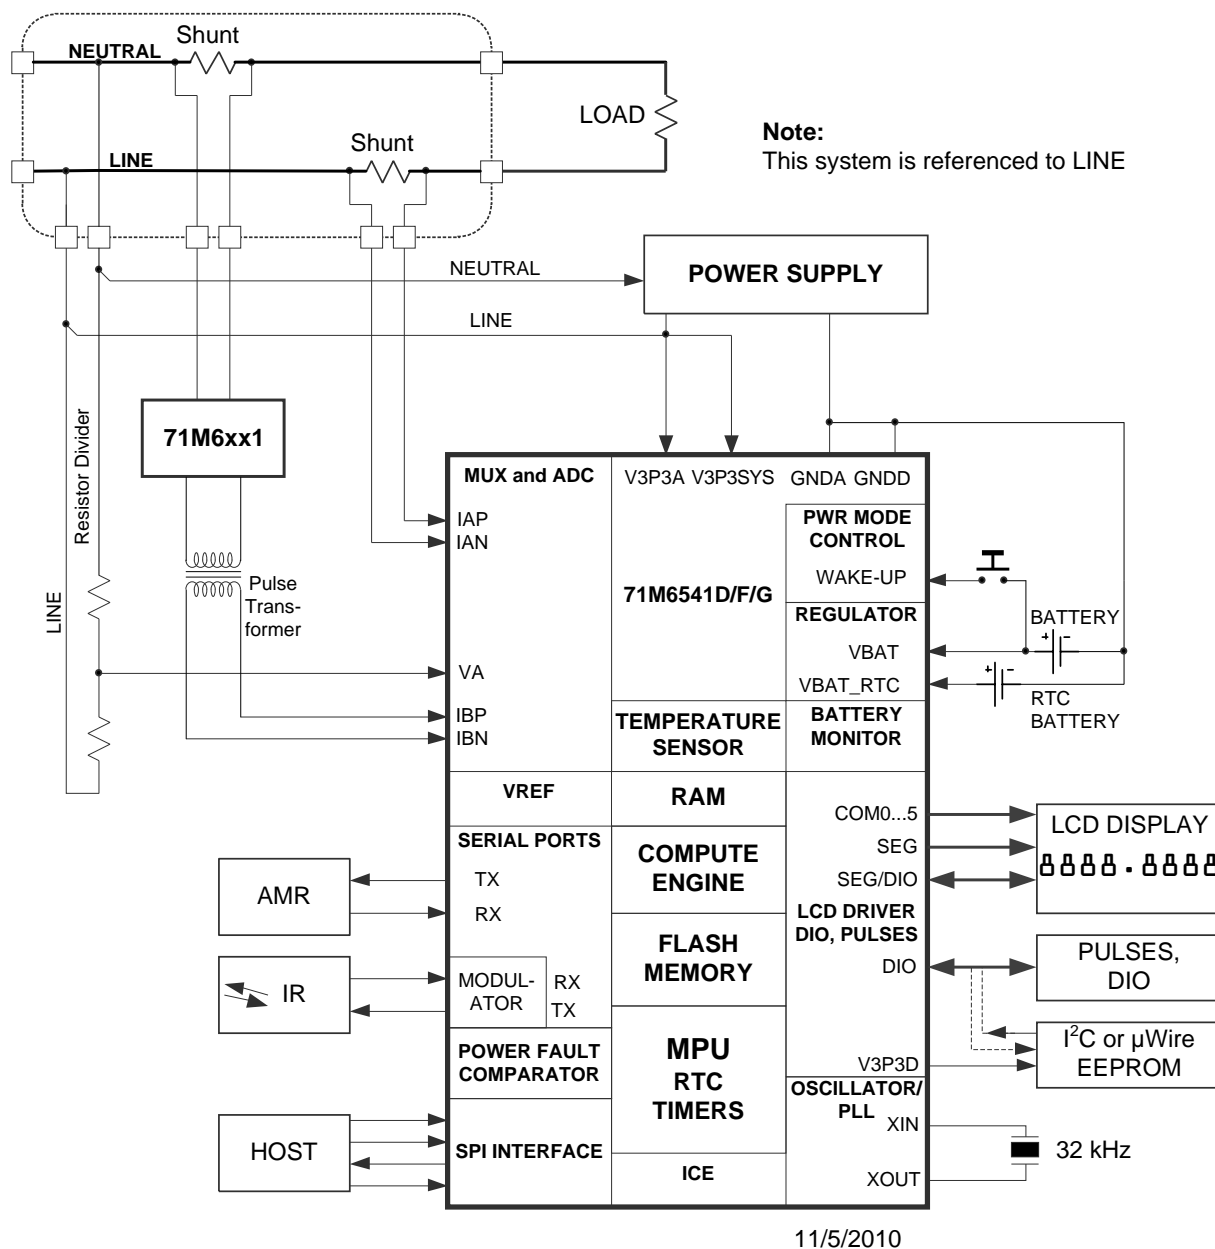
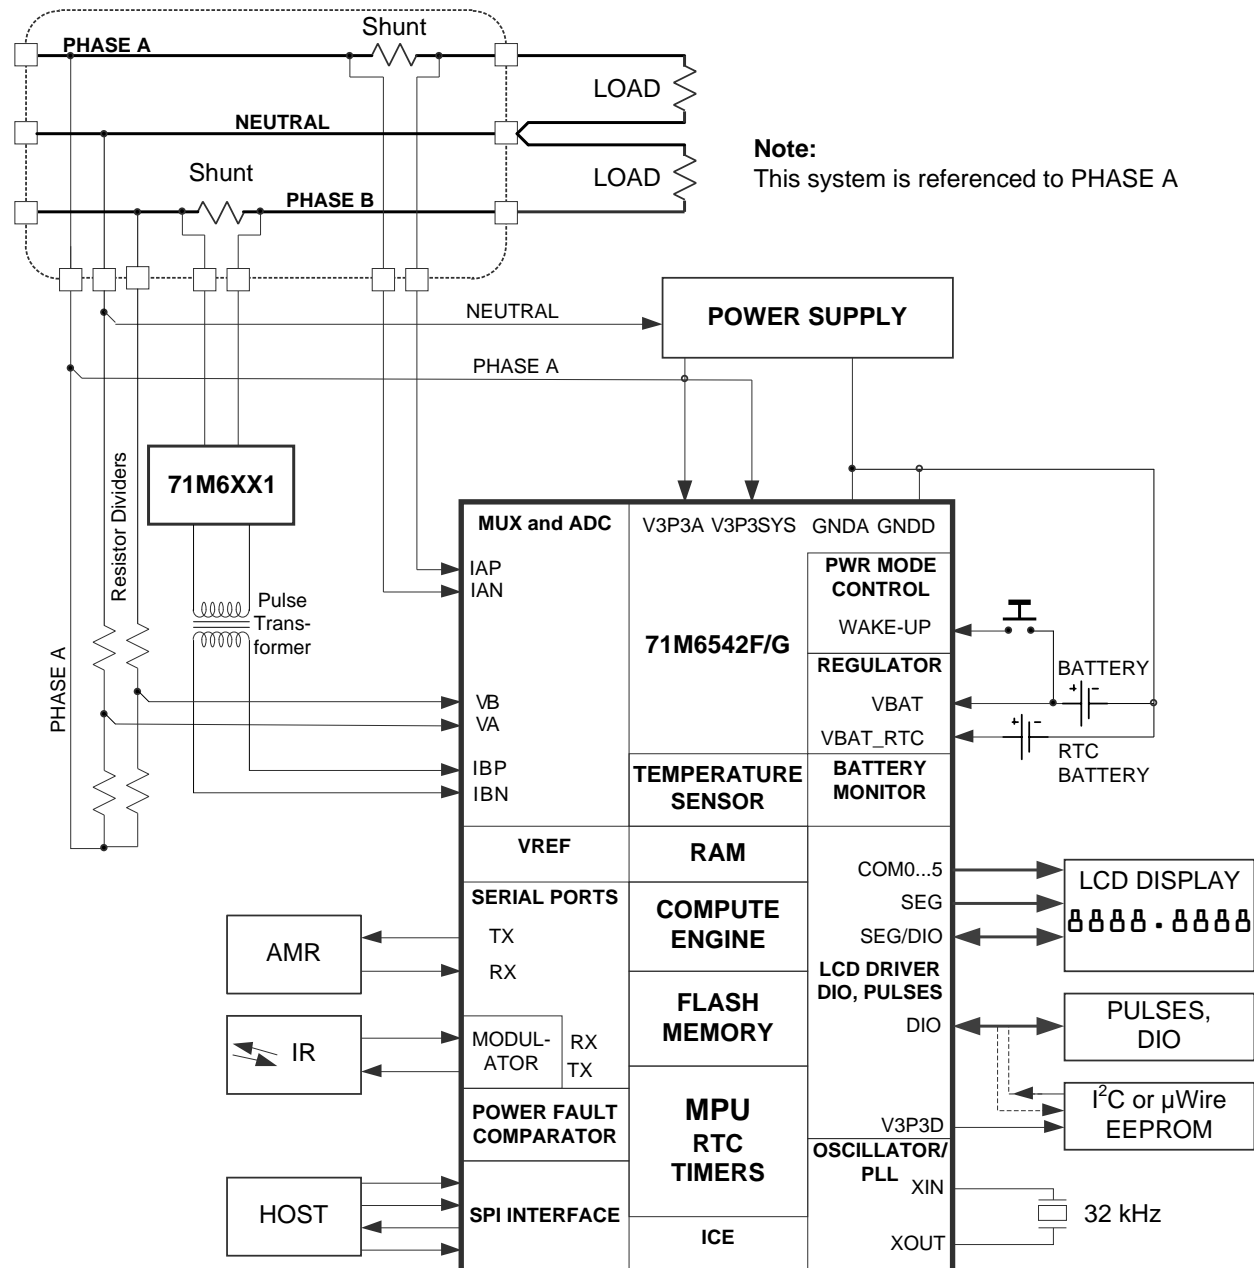

Figure 36: 71M6541D/F/G with 71M6x01 isolated Sensor
Figure 38: 71M6542F/G with 71M6x01 Isolated Sensor
Figure 36 shows a typical connection for one isolated and one non-isolated shunt sensor, using the 71M6x01 Isolated Sensor Interface. This configuration implements a single-phase measurement with tamper-detection using the second current sensor. This configuration can also be used to create a split phase meter (e.g., ANSI Form 2S). For best performance, the IAP-IAN current sensor input is configured for differential mode (i.e., $DIFFA_E = 1$, I/O RAM 0x210C[4]). The outputs of the 71M6x01 Isolated Sensor Interface are routed through a pulse transformer, which is connected to the pins IBP-IBN. The IBP-IBN pins must be configured for remote sensor communication (i.e., $RMT_E = 1$, I/O RAM 0x2709[3]). See Figure 3 for the AFE configuration corresponding to Figure 36.
Figure 38 shows a 71M6542F/G configuration using locally connected current sensors. The IAP-IAN current channel may be directly connected to either a shunt resistor or a CT, while the IBP-IBN channel is connected to a CT and is therefore isolated. This configuration implements a dual-phase measurement utilizing Equation 2. For best performance, both the IAP-IAN and IBP-IBN current sensor inputs are configured for differential mode (i.e., $DIFFA_E = 1$ and $DIFFB_E = 1$, I/O RAM 0x210C[4] and 0x210C[5]). The IBP-IBN input must be configured as an analog differential input disabling the remote sensor interface (i.e., $RMT_E = 0$, I/O RAM 0x2709[3]). See Figure 4 for the AFE configuration corresponding to Figure 38.
Figure 38 shows a typical two-phase connection for the 71M6542F/G using one isolated and one non-isolated sensor. For best performance, the IAP-IAN current sensor input is configured for differential mode (i.e., $DIFFA_E = 1$, $I/O\ RAM\ 0x210C[4]$). The 71M6x01 Isolated Sensor Interface is used to isolate phase B. The outputs of the 71M6x01 Isolated Sensor Interface are routed through a pulse transformer, which is connected to the pins IBP-IBN. The IBP-IBN pins must be configured for remote sensor communication (i.e., $RMT_E = 1$, $I/O\ RAM\ 0x2709[3]$). See Figure 5 for the AFE configuration corresponding to Figure 38.
This section discusses metrology temperature compensation for the meter designs where current shunt sensors are used in conjunction with the 71M6x01 isolated sensors, as shown in Figure 36 and Figure 38.
Referring to Figure 36 and Figure 38, the VA voltage sensor is available in the 71M6541D/F/G and 71M6542F/G and is directly connected to the 71M654x. The VB voltage sensor is available only in the 71M6542F/G and is also directly connected to it. Thus, the precision of these directly connected voltage sensors is affected by VREF in the 71M654x. The 71M654x also has one shunt current sensor (IA) which is connected directly to it, and therefore is also affected by the VREF in the 71M654x. The external current sensor and its corresponding signal conditioning circuit also has a temperature dependency, which also may require compensation, depending on the required accuracy class. Finally, the second current sensor (IB) is isolated by the 71M6x01 and depends on the VREF of the 71M6x01, plus the variation of the corresponding shunt resistance with temperature.